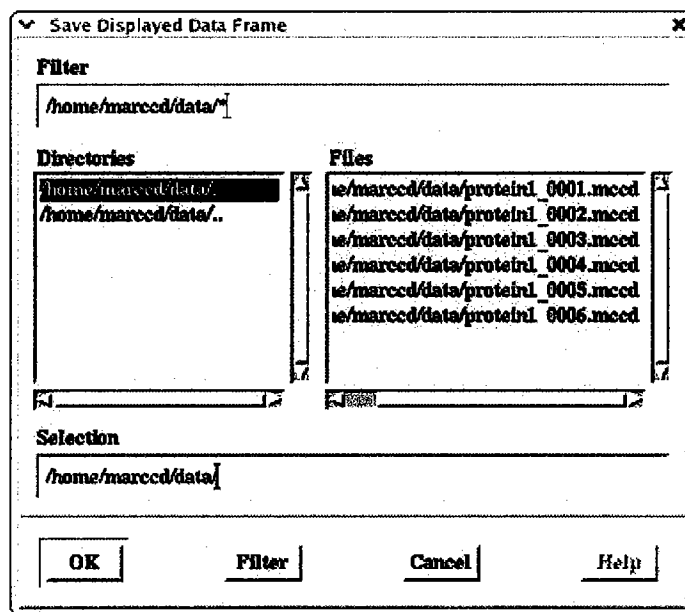

Figure 4 - Save Displayed Data Frame dialog
- ⇒ In the menu bar, click File–Save Displayed Data Frame. The Save Displayed Data Frame dialog box will appear as in Figure 4.